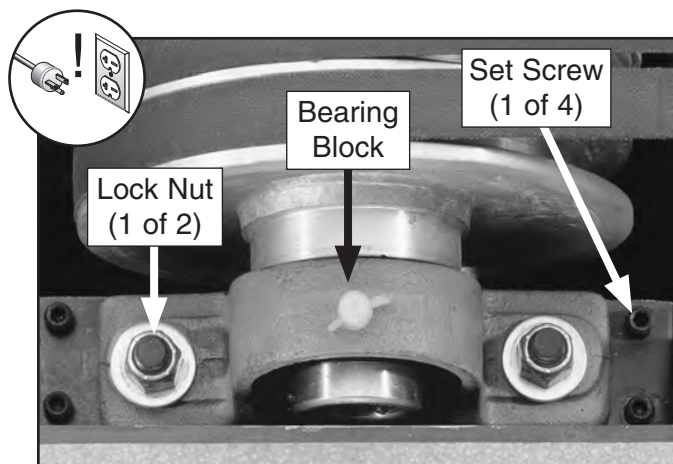

Figure 40. Bearing block components.
- Loosen lock nuts (see **Figure 40**) on bearing block on side of drum requiring adjustment.
2. Raise or lower bearing block by rotating set screws (see **Figure 40**). Turn very gradually— $\frac{1}{8}$ turn or less.